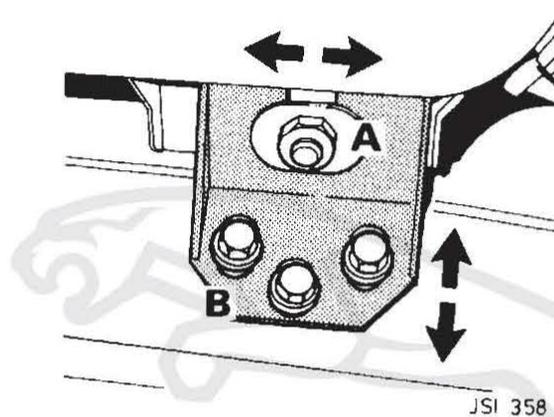

Fig. 9
19. Align the sliding panel to the roof profile and tighten the mounting bracket setscrews, B Fig. 9.
20. Ensure that the sunroof is correctly aligned in the roof aperture and tighten the mounting bracket nuts, A Fig. 9.
2. To adjust the alignment of the sliding panel to roof profile refer to operation 19 and B, Fig. 9, in the previous procedure.
3. To ensure correct centralisation of the sliding panel in the aperture, refer to operation 20 and A, Fig. 9, in the previous procedure.